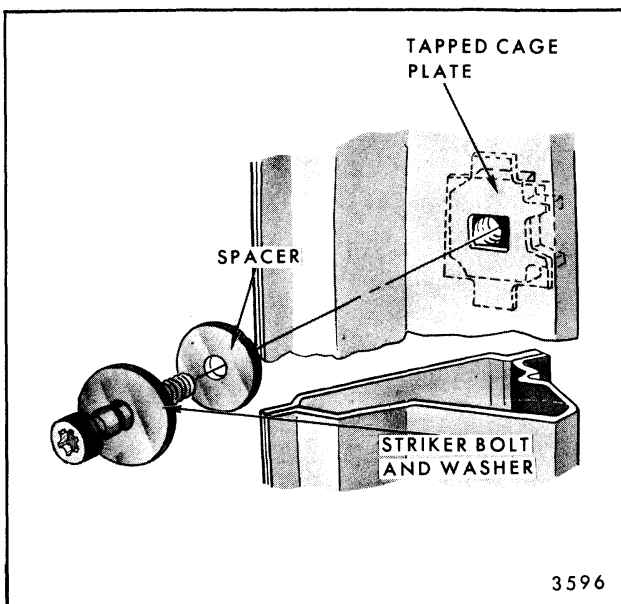

Fig. 5-33-Door Lock Striker Installation
2. Insert tool J-23457, BT-7107 or equivalent into the star shaped tool recess in the head of the striker bolt and remove striker (refer to Fig. 5-33).